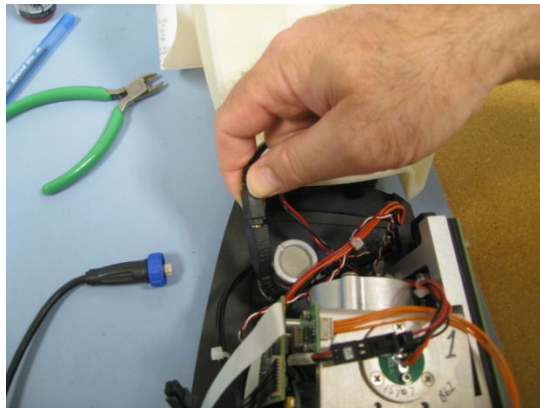

Figure 27. Disconnecting the USB cable.
- 4 Disconnect the USB cable. The USB connector is the black connector (see Figure 27).